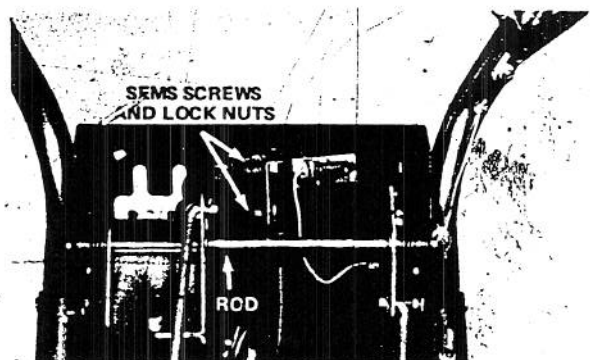

Figure 4
2. From back side, slide throttle control lever in front of pivot rod and through slot in control panel. Next, secure throttle control plate in place with two hex head sems screws and lock nuts (Fig. 4).